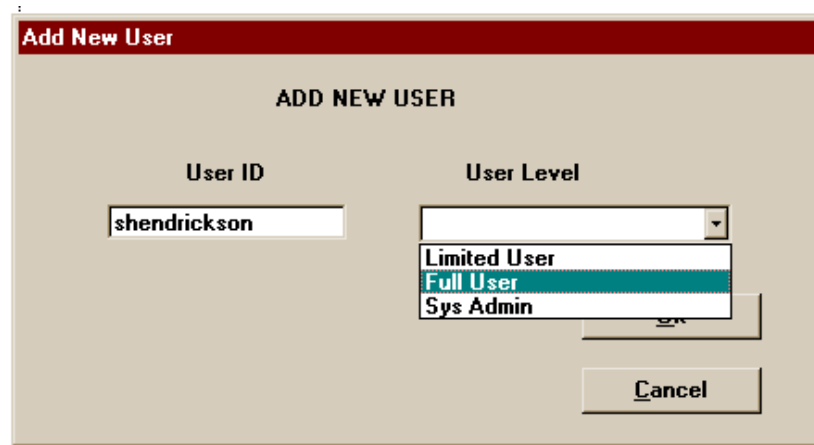

Figure 11. Add New User Screen
3. Use **TAB** key (or mouse) to select User ID field (refer to Figure 11)